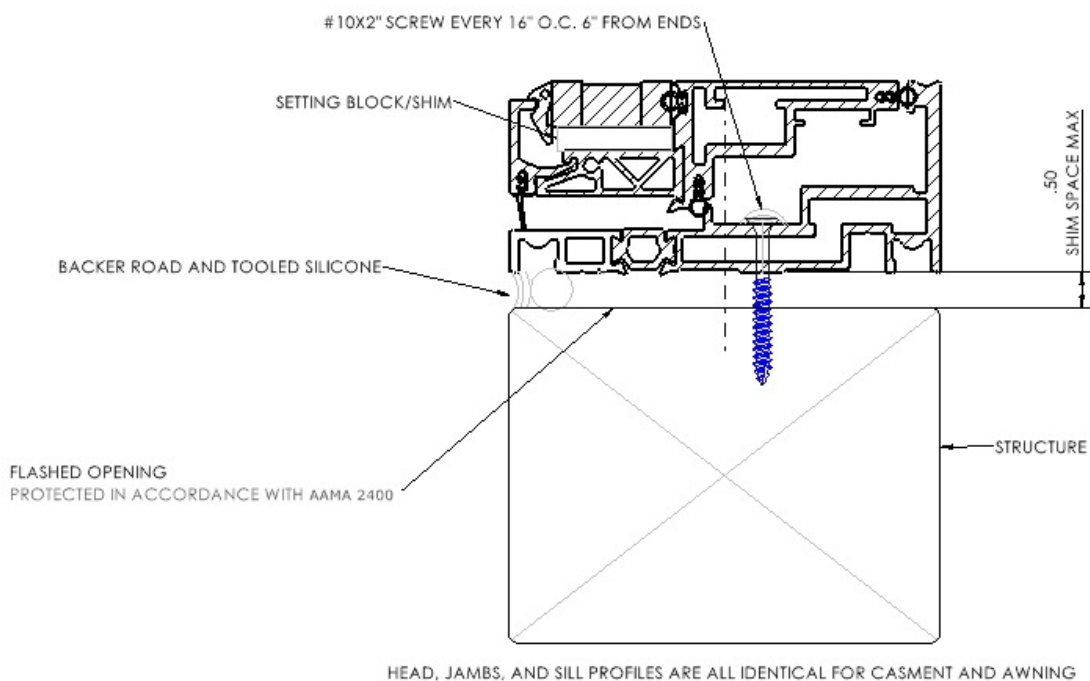

Figure 2
3. Unlock and open the vent sash to its max opening position. Through each jamb and head of the frame, drill a 3/16" dia. installation hole 6" from each end and every 16" on center thereafter. (See Figure 2).